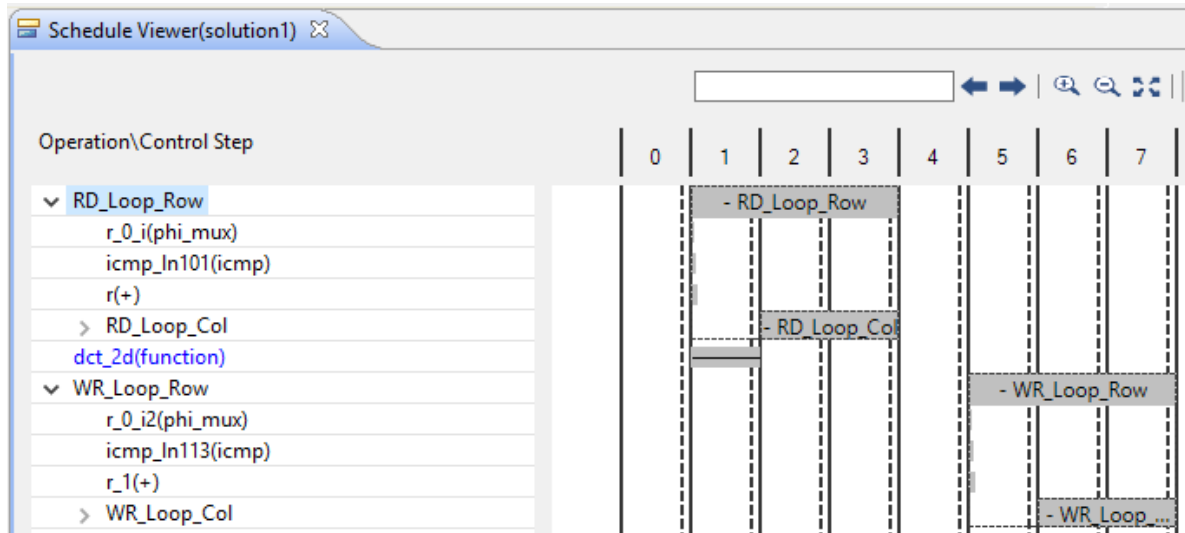

Figure 6-8: Expanded View of RD\_Loop\_Row
The Schedule Viewer is also shown (on the right side of Figure 6-8). This view shows how the operations in this particular block are scheduled into clock cycles.
2. Click loop **RD\_Loop\_Row** and sub-loop **RD\_Loop\_Col** to fully expand the loop hierarchy (Figure 6-8).